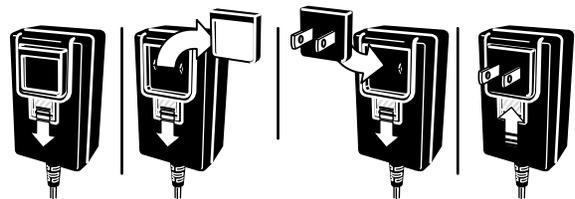

Figure 8
4. Remove the protective insert from the power adapter and install the plug appropriate for you region (Figure 8).